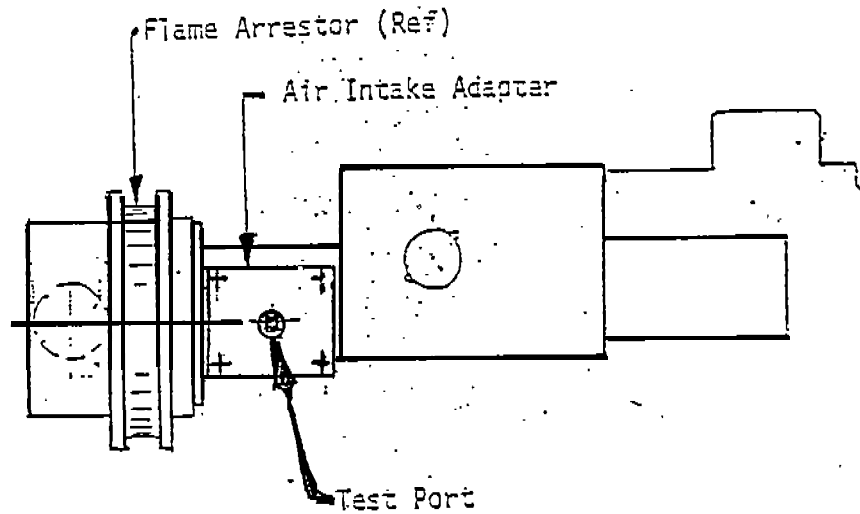

Figure 13. Intake Vacuum Port Location
22. ( ) Connect a manometer or magnehelic (vacuum gauge) to the intake vacuum port shown in Figure 13. Run the engine at full throttle with no load. The intake vacuum does not exceed 30 inches of water column.